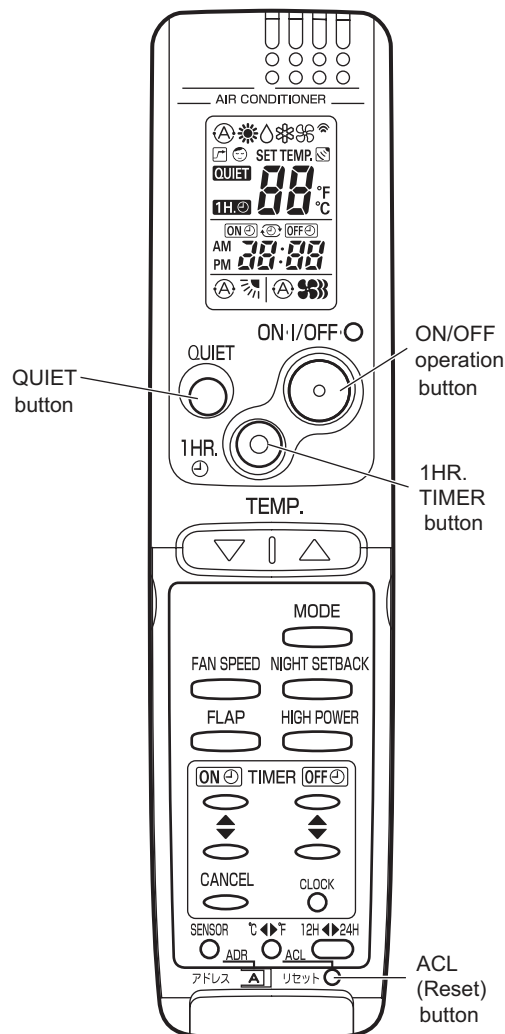

Fig. 8a
(Fig. 8a)
- (2) Start Cooling mode test run by pressing the ON/OFF operation button of the remote controller. (Fig. 8a)
- (3) Press the ON/OFF operation button of the remote controller again to stop the test run. (Fig. 8a)
- (4) Finally press the ACL (reset) button of the remote controller to release it from Test Run mode to return to normal mode. (Fig. 8a)